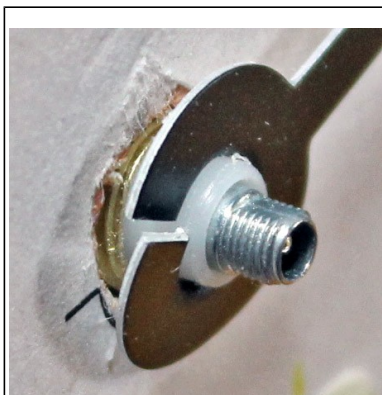

Fig. 6: Hour hand hub split wrong.
- ☐ Work carefully. The hour hand's hub is split, and sometimes it bends upward at the split, as seen in Fig. 6. If this bent end is too high, the minute hand will drag on it.
- ☐ Check that the minute hand's hub is not dragging on the hour hand's hub at the split, as discussed above. Fig. 8 shows proper hub clearance. Notice also how close-together is the hour hand hub at the split. If it were like Fig. 6, the minute hand would drag on it.